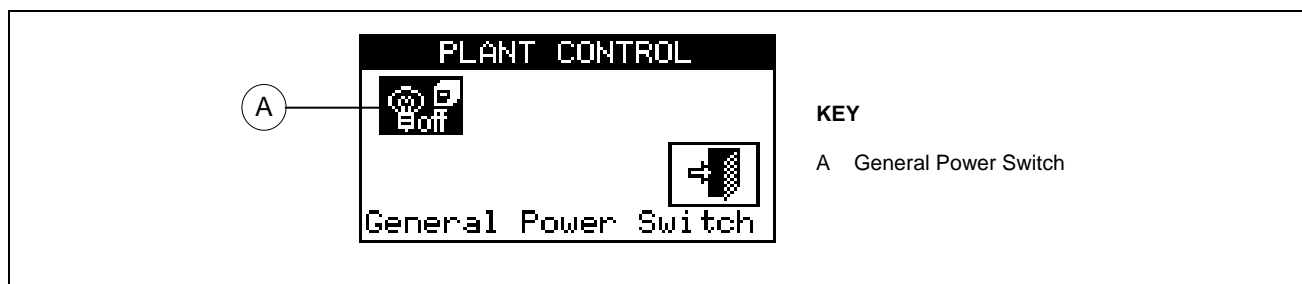

Figure 4 – EXAMPLE OF BASE OR SEPARABLE DHW SERVICE CONTROL SCREEN
- 4 - In both cases (“Base DHW control” and “Separable DHW control”) the screen shown in Figure 4 will be displayed on the screen.